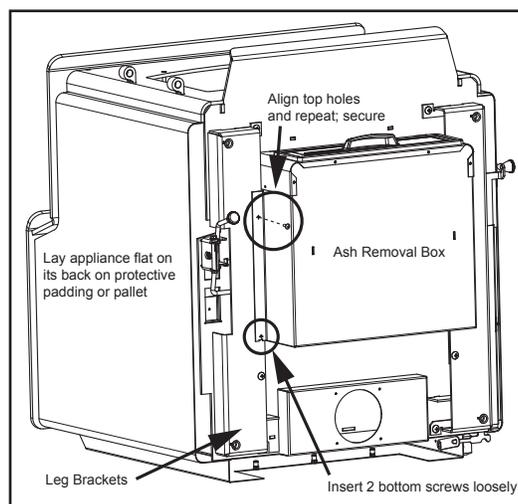

Figure 23.1
2. Slide pedestal over adapter on bottom of appliance and secure with bolts from heat shield (**Figure 23.1 on page 23**).
Start bottom two bolts through ash drawer, leg brackets and into the bottom of the appliance (**Figure 23.1**).